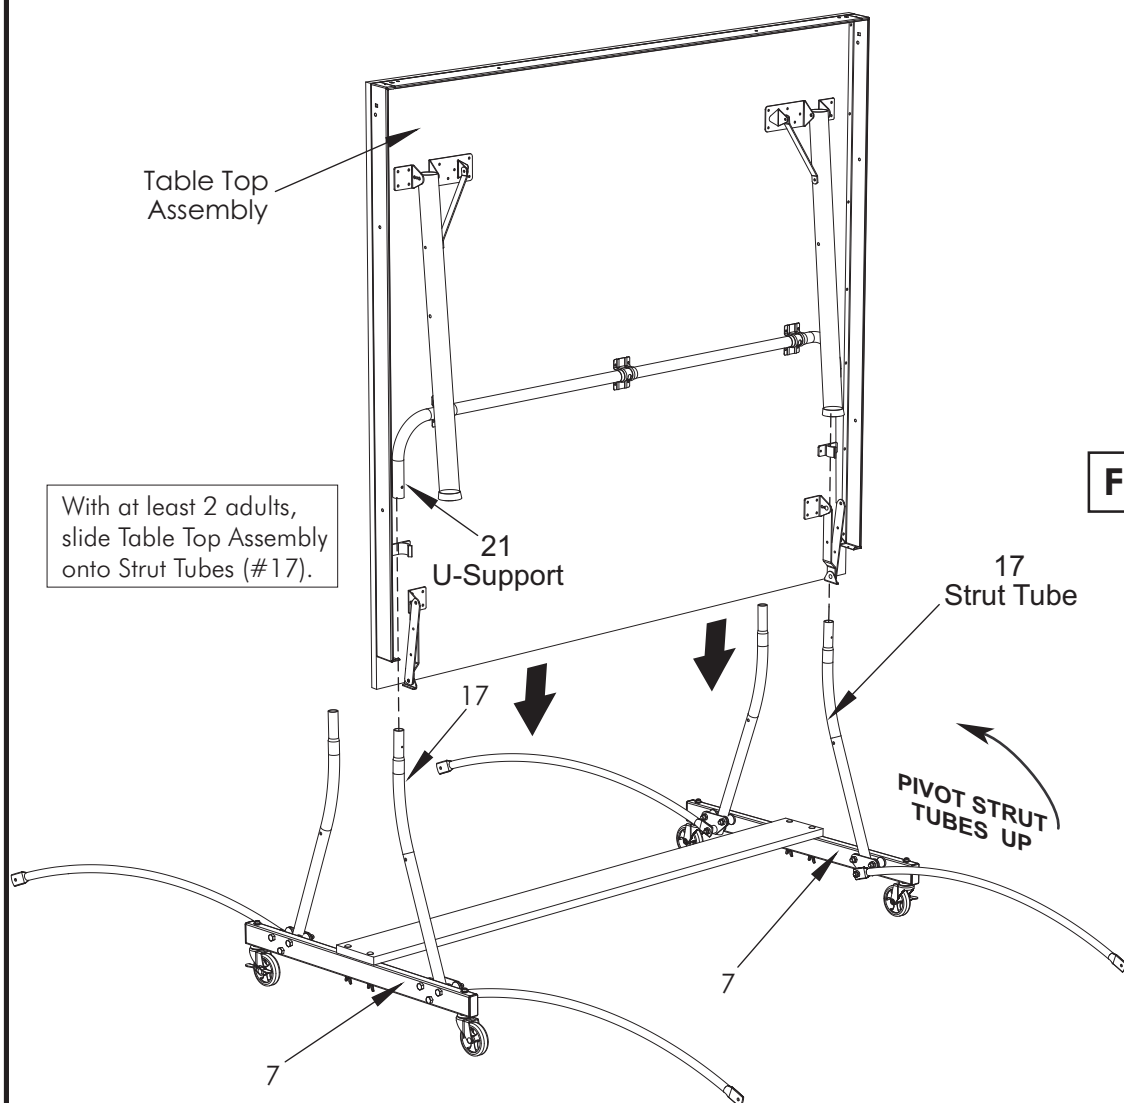

Figure 4
7. Attach Table Top Assembly to Base Assembly (that you put together in steps 1 & 2), as shown in **Figure 4**. Pivot Strut Tubes (#17) up as shown; then, with at least one adult on each side of Table Top, lift top and align ends of U-support tube (#21) with tops of Strut Tubes (#17) on Caster Beams (#7) as shown in **Figure 4**. Slide tubes together.